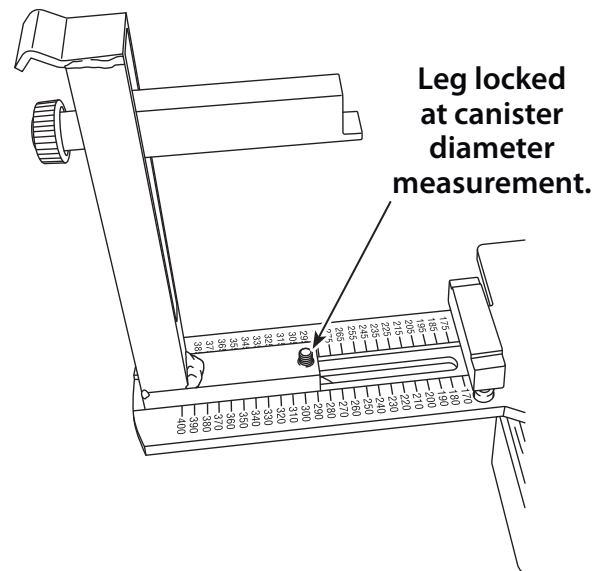

Figure 7
3. Lock the legs into position at the distance measured in Step 2. Legs cannot be smaller than the measured length as the fixture will not fit on the filter. (Figure 7)